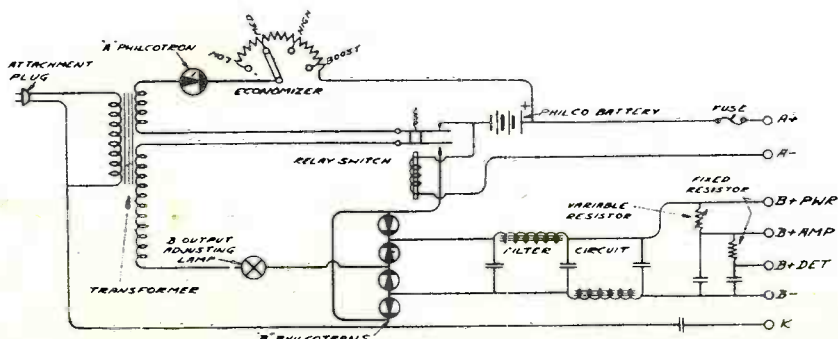

Fig. 29 - Philco AB Socket Power Types AB-656 and AB-652.
(15) Combined "A" and "B" Eliminators. A combined "A" and "B" eliminator is merely the combination of the subjects we have just discussed, and a detailed analysis need not be given. Circuit diagrams, Figs. 29 and 30, showing the Philco and Balkite "AB" socket-power units, are given, however; the illustrations being self-explanatory.
(16) Power Packs. Power packs are made in many forms to suit different set conditions, but they are all fundamentally the same and have the same inherent characteristics. The power pack is a combination of parts designed to furnish the set with plate, grid, and filament voltages for A.C. tubes and is built in a unit separate from the set. It is thus distinguished from electric sets in which the power-supply system is an integral part of the set. We might appropriately call them heavy-duty "B" eliminators. In addition to furnishing plate, grid and filament voltages for A.C. tubes, some power packs also contain a stage of audio-frequency amplification - the output stage - of